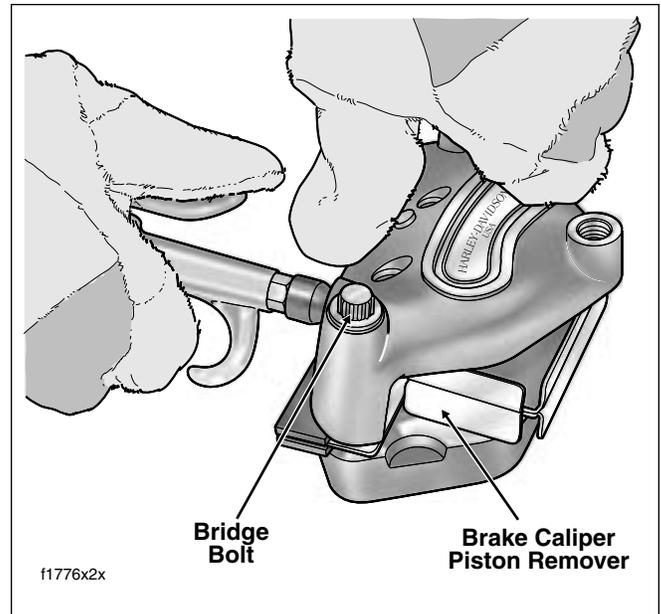

Figure 2-61. Direct Compressed Air Into Banjo Bolt Hole
- e. Using a tapered, rubber-tipped nozzle on the air hose, apply low pressure compressed air into the banjo bolt hole to force pistons into contact with cushion of tool. See Figure 2-61.